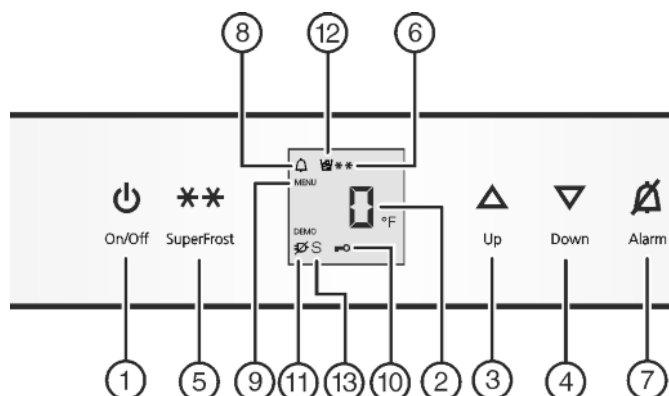

Fig. 2
- Press On/Off button Fig. 2 (1).
- ▶ Activate setting mode: Press SuperFrost button *Fig. 2 (5)* for about 5 seconds.
- ▷ The Menu symbol *Fig. 2 (9)* lights up.
- ▶ Using Up button *Fig. 2 (3)*/ Down button *Fig. 2 (4)* select °.
- ▶ To confirm: Briefly press SuperFrost button *Fig. 2 (5)*.
- ▶ Using Up button *Fig. 2 (3)*/ Down button *Fig. 2 (4)* select °F or °C.
- ▶ To exit setting mode: Press On/Off button *Fig. 2 (1)*.
- ▶ Activate setting mode: press and hold the SuperFrost button *Fig. 2 (5)* for approximately 5 s.
- ▶ Using the Up button *Fig. 2 (3)* or Down button *Fig. 2 (4)*, select c.
- ▶ Press the SuperFrost button *Fig. 2 (5)* briefly to confirm. When cI is shown on the display:
- ▶ To switch on the child-proof lock, press the SuperFrost button *Fig. 2 (5)* briefly.
- ▷ The Child safety symbol *Fig. 2 (10)* lights up. c flashes on the display.
- ▶ To switch off the child-proof lock, press the SuperFrost button *Fig. 2 (5)* briefly.
- ▷ The Child safety symbol *Fig. 2 (10)* goes out. c flashes on the display.
- ▶ Deactivate setting mode: press the On/Off button *Fig. 2 (1)*.
- ▶ Press Alarm button *Fig. 2 (7)*.
At the same time, the Alarm symbol *Fig. 2 (8)* will flash.
The audible warning automatically ceases, the Alarm symbol *Fig. 2 (8)* goes out, and the temperature display stops flashing when the temperature is cold enough again.